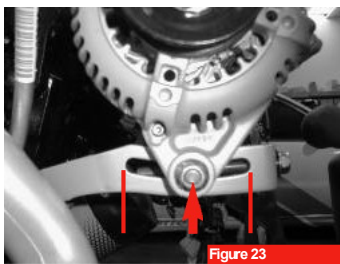

Figure 23
6. Remove the bolt in Location B. Set the alternator to mid-point adjustment on the adjustable bracket (see figure 23). Torque the pivot bolt (top) and pinch nut (arrow) to factory specification.